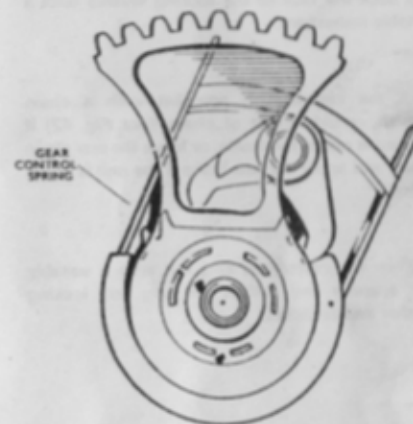

Fig. 41 Showing positioning of pawls and gear control spring relative to the quadrant.
- 3 Refit the gear control spring (see Fig. 41).
- 4 Fit the two pawls as in Fig. 41 - the first one must have the long claw facing to the front of the gearbox. The second pawl has the long claw to the rear of the gearbox.